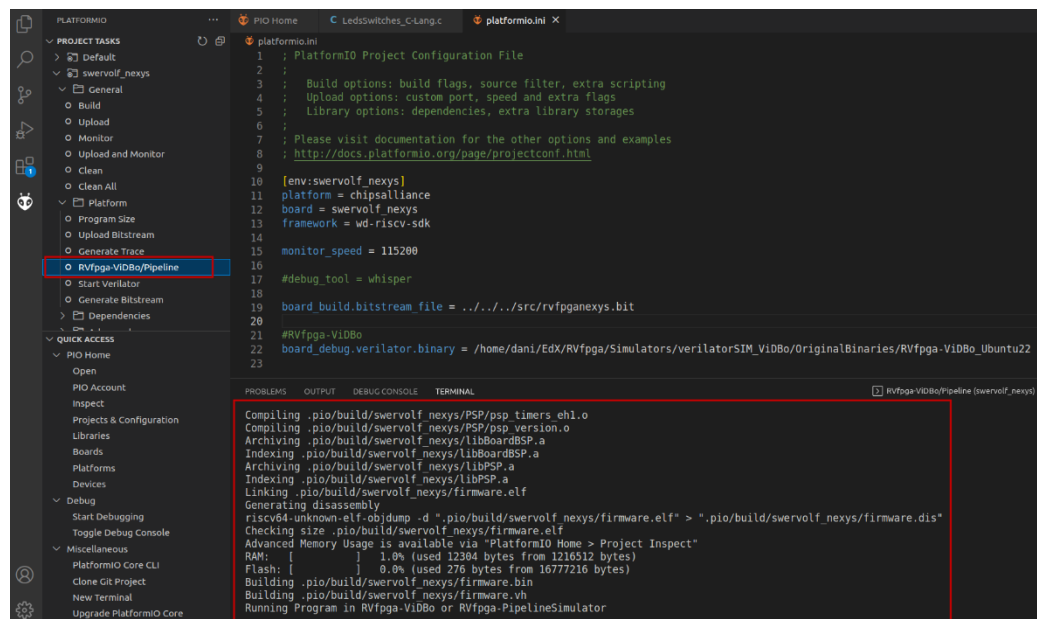

Figure 113. Launching RVfpgaEL2-ViDBo
- c. Then expand **PROJECT TASKS > env:swervolf_nexys > Platform** and click on **RVfpgaEL2-ViDBo/Pipeline** (see Figure 113). This first compiles the program and then launches the Verilator simulation of the RVfpga SoC running this program.